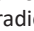

Figure 3
- The display will indicate the radio is in Scan Mode by displaying a flashing “” icon on the LCD. (See Figure 3)
Note: A priority channel must be set up first before Pri Scan is Enabled. (See Figure 3)